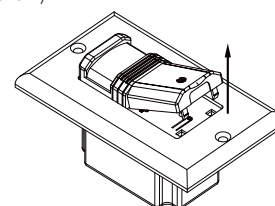

Figure 7: Lift the screwdriver upward to open the cover.
- Gently lift the screwdriver upward to unlatch the cover (see figure 7).